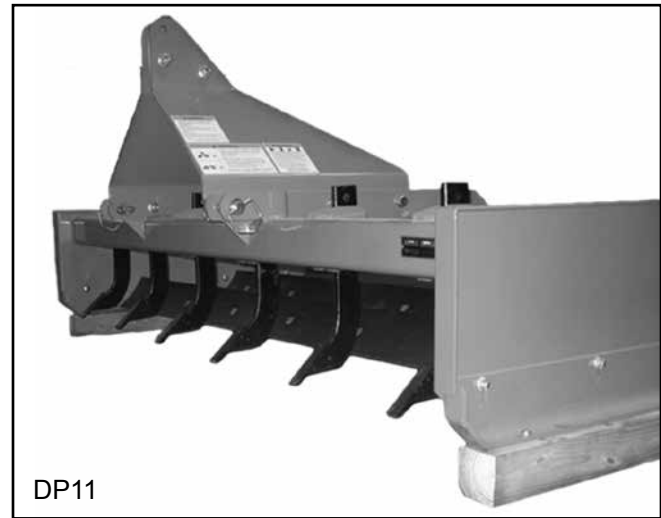

Figure 6. Grading Scraper Blocked Up
1. Place two 6" x 6" (15 x 15 cm) blocks under each side frame of the grading scraper as shown in Figure 6.
1. Block up machine by placing two 6" x 6" (15 x 15 cm) blocks under each side-frame of the grading scraper (see Figure 6).
1. Place two 6" x 6" (15 x 15 cm) blocks under each side-frame of the grading scraper (see Figure 6).
1. Block up scraper by placing two 6" x 6" (15.24 cm x 15.24 cm) blocks under each side frame (see Figure 6).